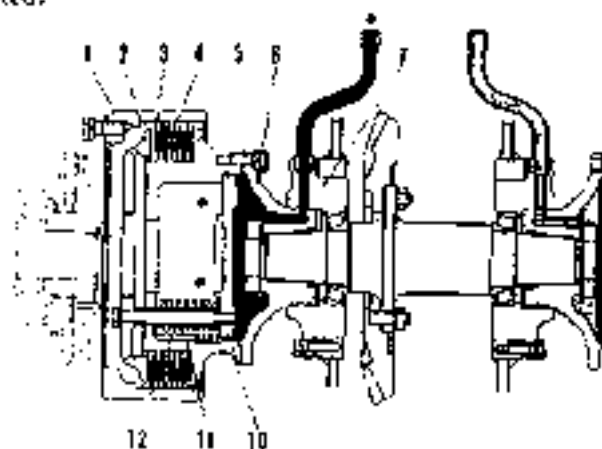

Fig. 2-27
The structure of the steering clutch is shown in Fig 2-27. It consists of the inner drum, outer drum, pressure plate, plates and discs springs.
When the pressurized oil from steering control valve goes to the inner chamber of hub (6)(as shown in Fig. 2-27), it pushes the piston(10), bolt and pressure plate(2) to make them move in the direction of arrow(overcome a load of large and small springs), the clutch plate(4)be disengaged from the friction disc(3), outer drum(1) stopped, therefore the power transfer interrupted.